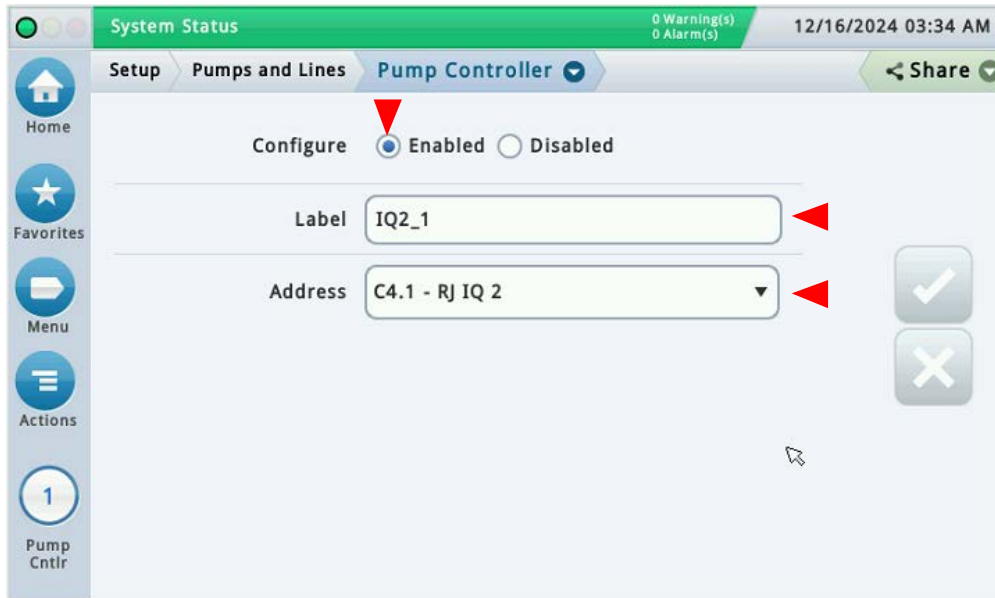

Figure 25. Selecting Pump Controller Screen
1. Navigate to the **Setup > Pumps and Lines > Pump Controller** screen (see Figure 25).
2. In the Label field enter a name for this Pump Controller (see Figure 25).
3. The Address field will contain all of the available pump controller types connected to IPC Comms serial port (e.g., IQ2). Reference your record of each controller's assigned Secondary address (1 to 31), to select the desired controller from the drop-down list. For example, the Address field in Figure 25, C4.1 RJ IQ 2, C4 = the IPC Comms serial port; 1 = Secondary address; and RJIQ2 Controller type assigned to that address.